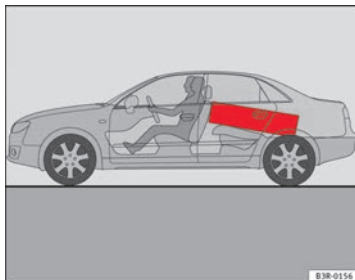

Fig. 113 Position heavy items as far forward as possible.
- Position heavy items as far forward as possible ⇒ Fig. 113.